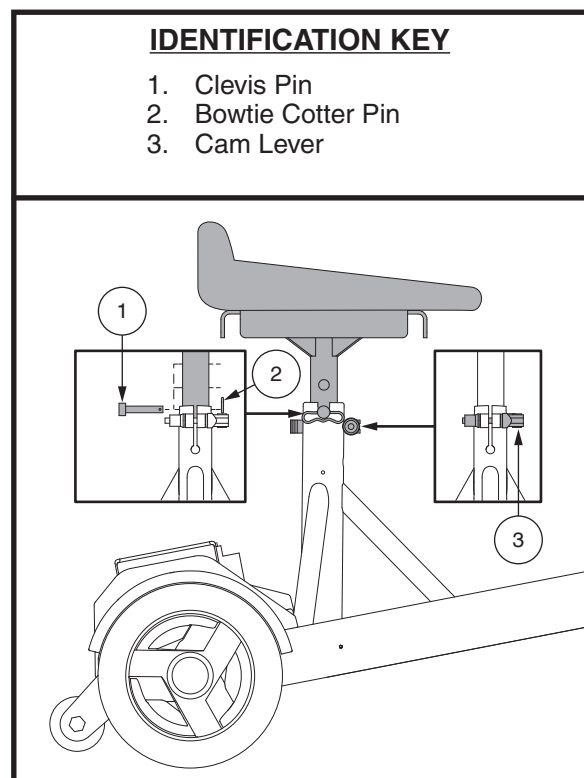

Figure 19. Seat Height Adjustment
The seat can be repositioned to different heights. See figure 19.
1. While holding the seat, align the adjustment holes on the seat and lower seat post slot and insert post. See figure 19.